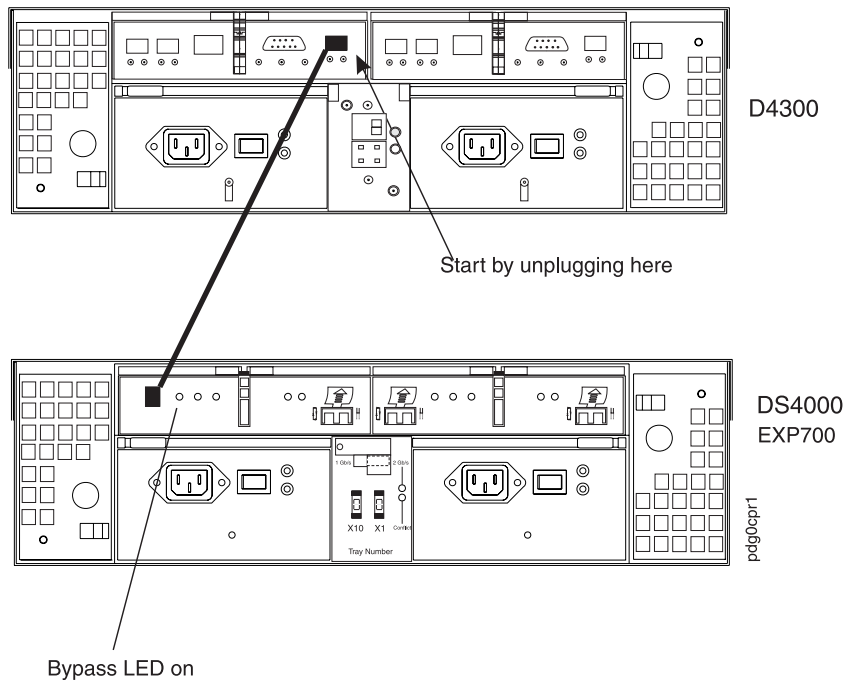

Figure 74. Copper cable and bypass light
1. Unplug one end of the FC copper cable in the loop element that has the bypass indicator light on. You can start at either cable end. For this example, start by unplugging the end that connects to the controller. See Figure 74.